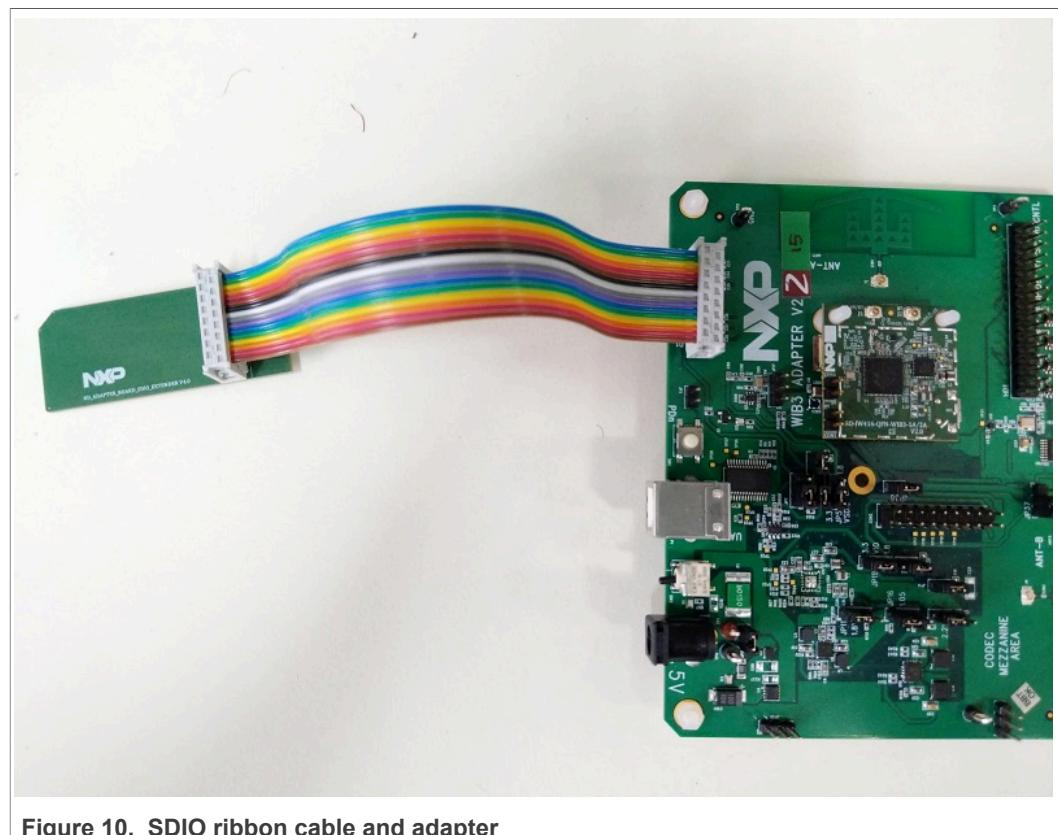

Figure 10. SDIO ribbon cable and adapter
1. Connect SDIO ribbon cable and SDIO adapter to the WIB3 adapter board, as shown in Figure 10.
Figure 10 shows the SDIO interface cable connection with the red trace aligned to SD\_DATA[2] (D2) signal.